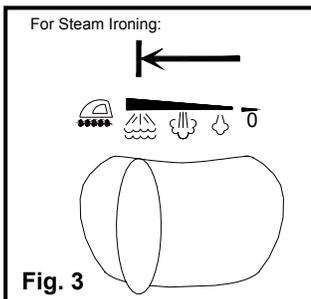

Fig. 3
5. Slide the steam lever up to increase the amount of steam. (See figure 3) When using extra steam, the iron uses more water and it may be necessary to fill the tank more often. See page 6 for refilling the iron with water.